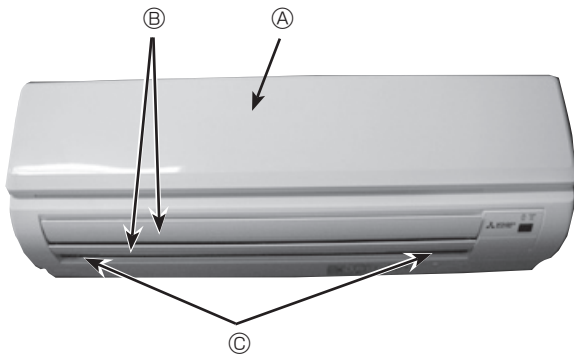

Fig. 6-2
3. Remove the screw caps of the panel. Remove the screws. (Fig. 6-2)